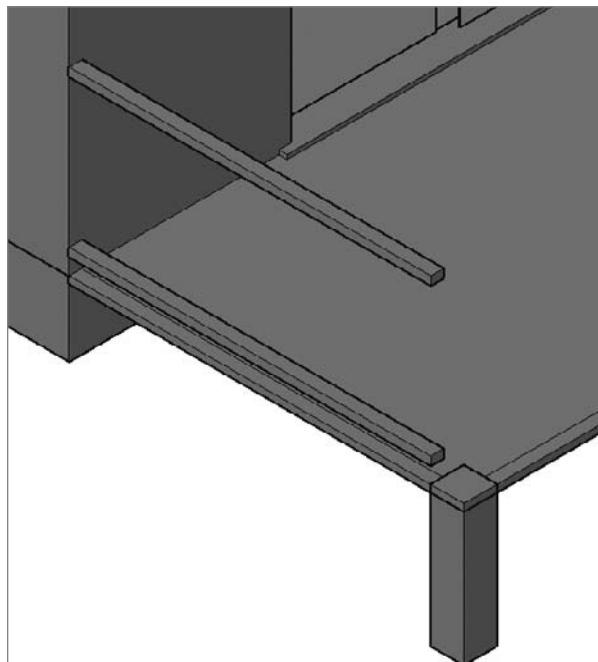

FIGURE 16.54 The first upper and lower railings
3. Draw a box that follows the perimeter of the railing on the left side of the deck, and make this box 2" (51 mm) tall. Move the box 4" (102 mm) in the Z direction to represent the lower railing; then copy it and move the copy 3'-2" (965 mm) higher to represent the upper railing. Your railings should look like those in Figure 16.54.